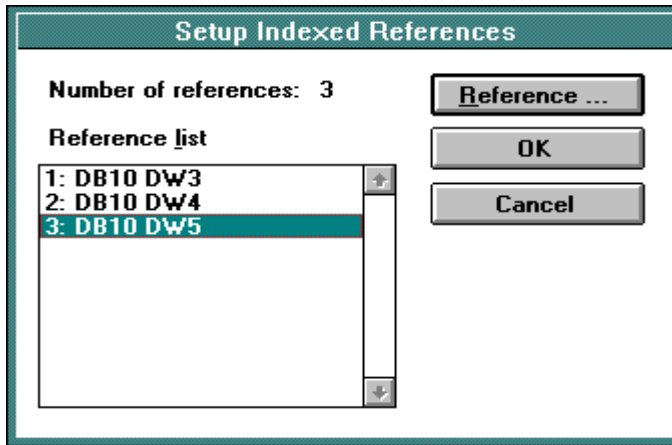

Figure 3-11
- When creating the *pressure indexed field*, the value of 1 should be referenced to DB10 DW3. Likewise, the value of 2 should be referenced to DB10 DW4, and the value of 3 should be referenced to DB10 DW5. A configured dialog box is shown in Figure 3-11.